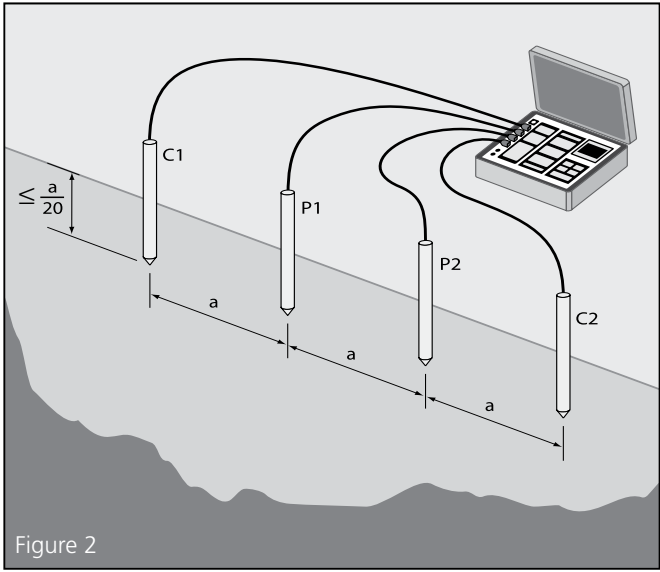

Figure 2
- An earth resistance tester is connected to these four stakes as shown in Figure 2.